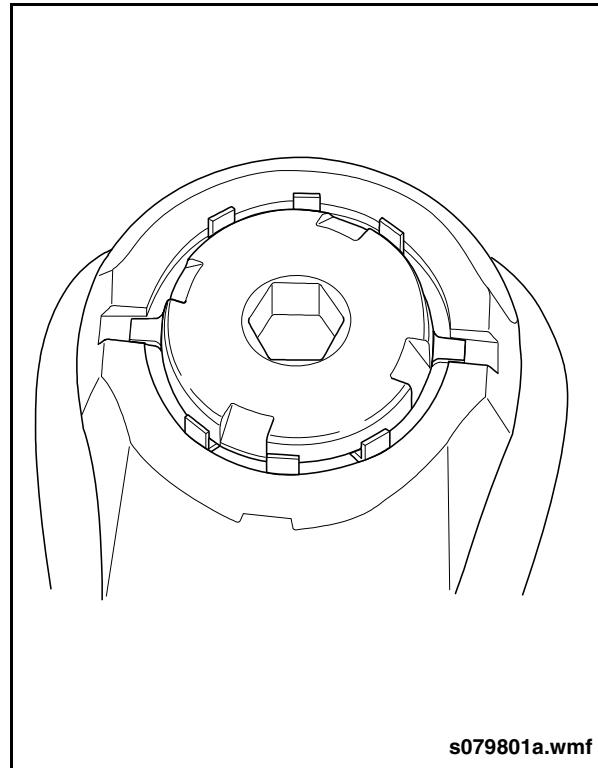

Fig. 3-28: Locking Pitman Arm Tabs
32. Screw retainer into output shaft by hand. Align tabs of tab lock washer with notches in Pitman arm. See "Fig. 3-28: Locking Pitman Arm Tabs" on page 41.